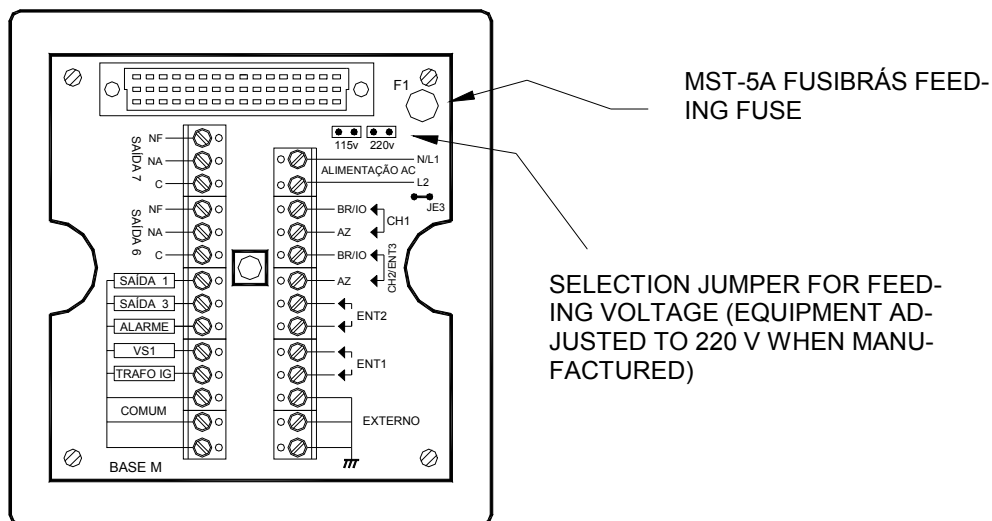

FIGURE 2
Note: Equipment originally configured for 220Vac. To alter feeding, change jumper to 115Vac position – See figure 2.
- ✓ Assembling: through BASE MIIIMe, this may be assembled on any external surface (for instance, burner) or internal surface on the panel. See figure 2.